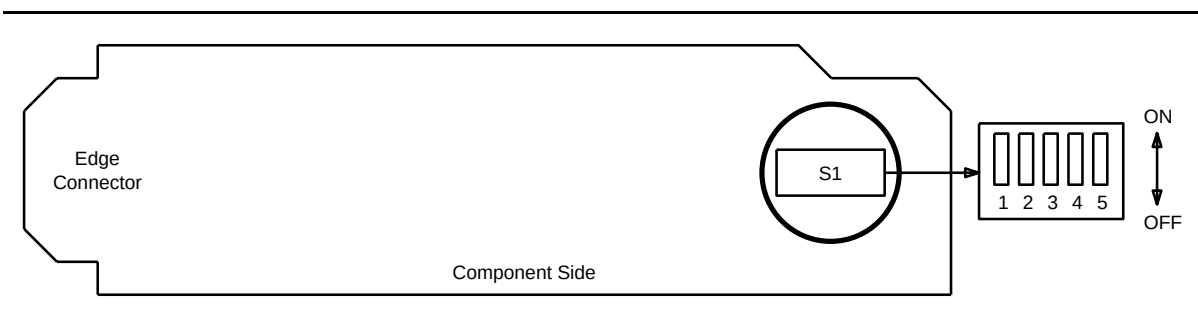

Figure 1. T1EXT Option Settings
5. Refer to Figure 1 and Table A and set line code option switches on protection **T1EXT** circuit pack(s).